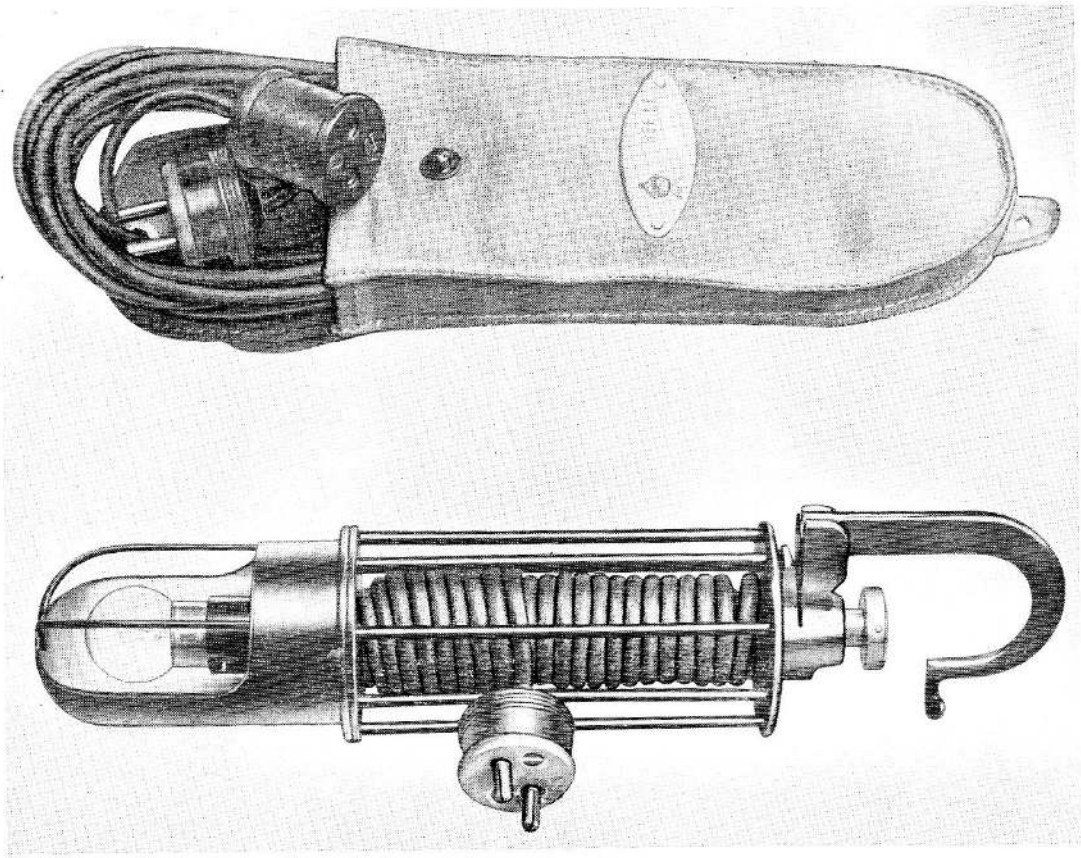
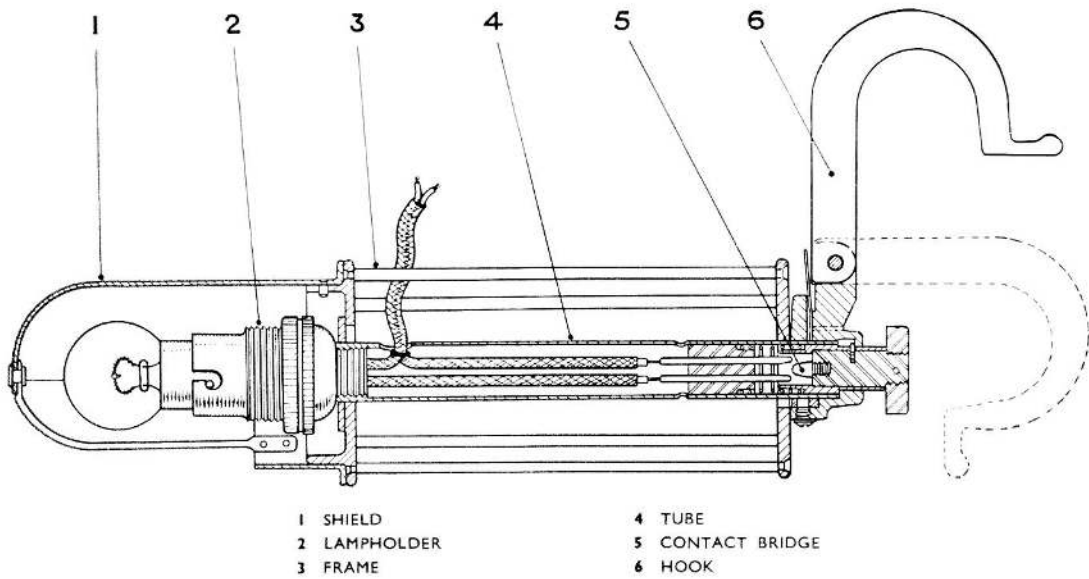

Fig. 1. Inspection lamp, Mk. 2, and extension leads
Fig. 2. Sectional view, inspection lamp, Mk. 2
2. A general view of the lamp and the extension lead is given in fig. 1. A small bayonet lampholder (*fig. 2*) is attached to a tube with a push-switch at the other end. The contact bridge of the switch, actuated by the push button, is mounted on an insulating block fitted into a spring-loaded sleeve.
4. The tube, lampholder, switch and hook assembly is free to turn in the outer frame, which consists of two circular end plates joined by bars to form a cage. The plate at the lamp end has a flange with three bayonet slots, to which a mask (*fig. 1*) is fitted to shade the light from the operator and reflect it on the equipment under observation.
6. A 2-pin plug is connected to the 10 ft. length of cable. The hook (*fig. 2*) can be turned and used as a winding handle, and by this means the entire length of cable can be wound on to the tube.